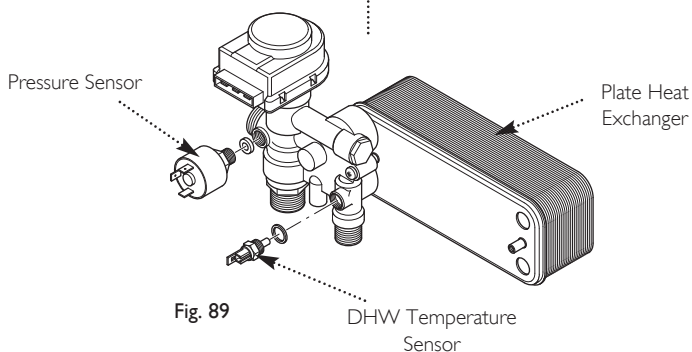

Fig. 89
14.9 Water Pressure Sensor (Fig. 89)
14.12 DHW Temperature Sensor (NTC) (Fig. 89)